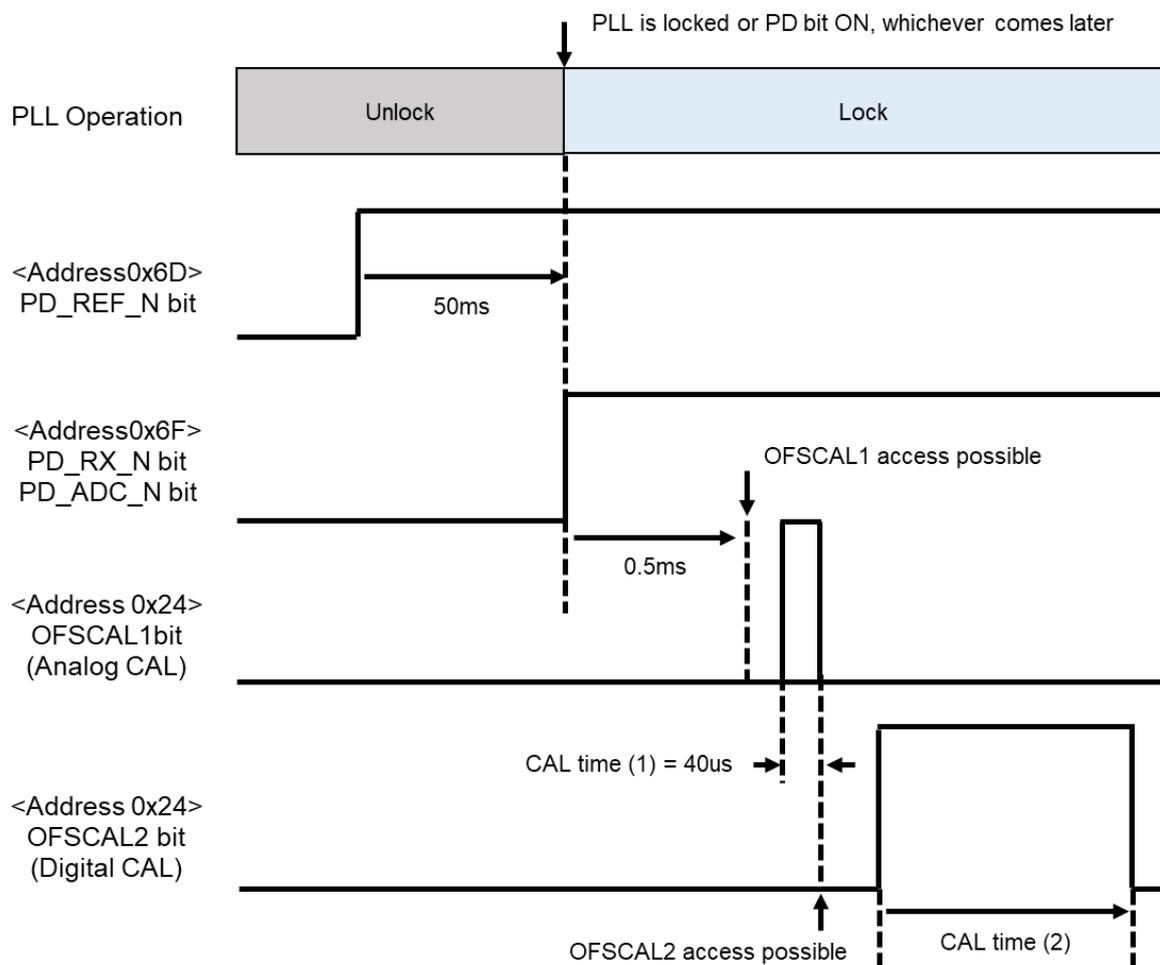

Figure 16 Power-up sequence of the Receiver
The Figure 16 shows the operation sequence of the power-up of the receiver. For more information, including the CAL time (2), refer to 13.8.8 DC Offset .